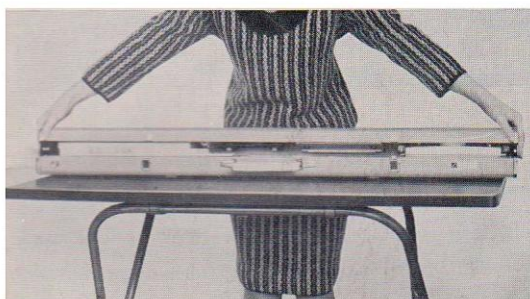

Fig. 2
b. Lift the upper case slightly and pull towards you. This will release the upper case which should be placed on the table beyond the knitter, inside up. (See Fig.2)